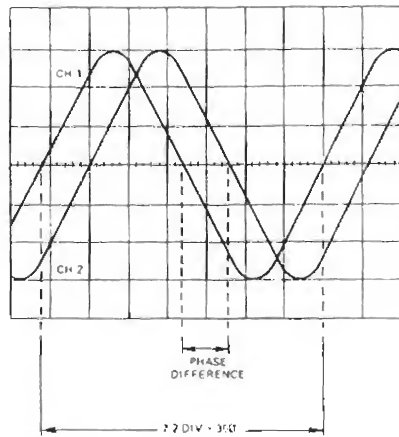

Figure 2-18. Dual-trace method of phase measurement
2. Set the trigger SOURCE switch (28) to the channel with the least noise and most stable trace. Temporarily move the other channel's trace off the screen by means of its Vertical Position control.
3. Center the stable (trigger source) trace with its Vertical Position control, and adjust its amplitude to exactly 6 vertical divisions by means of its VOLTS/DIV switch (11) and VARIABLE control (12).
4. Use the LEVEL control (31) to ensure the trace crosses the central horizontal line at or near the beginning of the sweep. (See Figure 2-18.)
5. Use the A TIME/DIV switch (26), the Time VARIABLE control (22), and the Horizontal Position control (24) to display one cycle of trace over 7.2 divisions. When this is done, each major horizontal division represents 50° , and each minor division represents 10° .
7. The horizontal distance between corresponding points on the waveform is the phase difference. For example, in the Figure 2-18 illustration the phase difference is 6 minor divisions, or 60° . Use the Horizontal Position control (24) to align one of the mid-cycle zero crossings with a graticule calibration to facilitate this measurement.
8. If the phase difference is less than 50° (one major division), pull the PULL X10 MAG switch (24) and use the Horizontal Position control (24) (if needed) to position the measurement area back on screen. With 10X magnification, each major horizontal division is 5° , and each minor division is 1° .